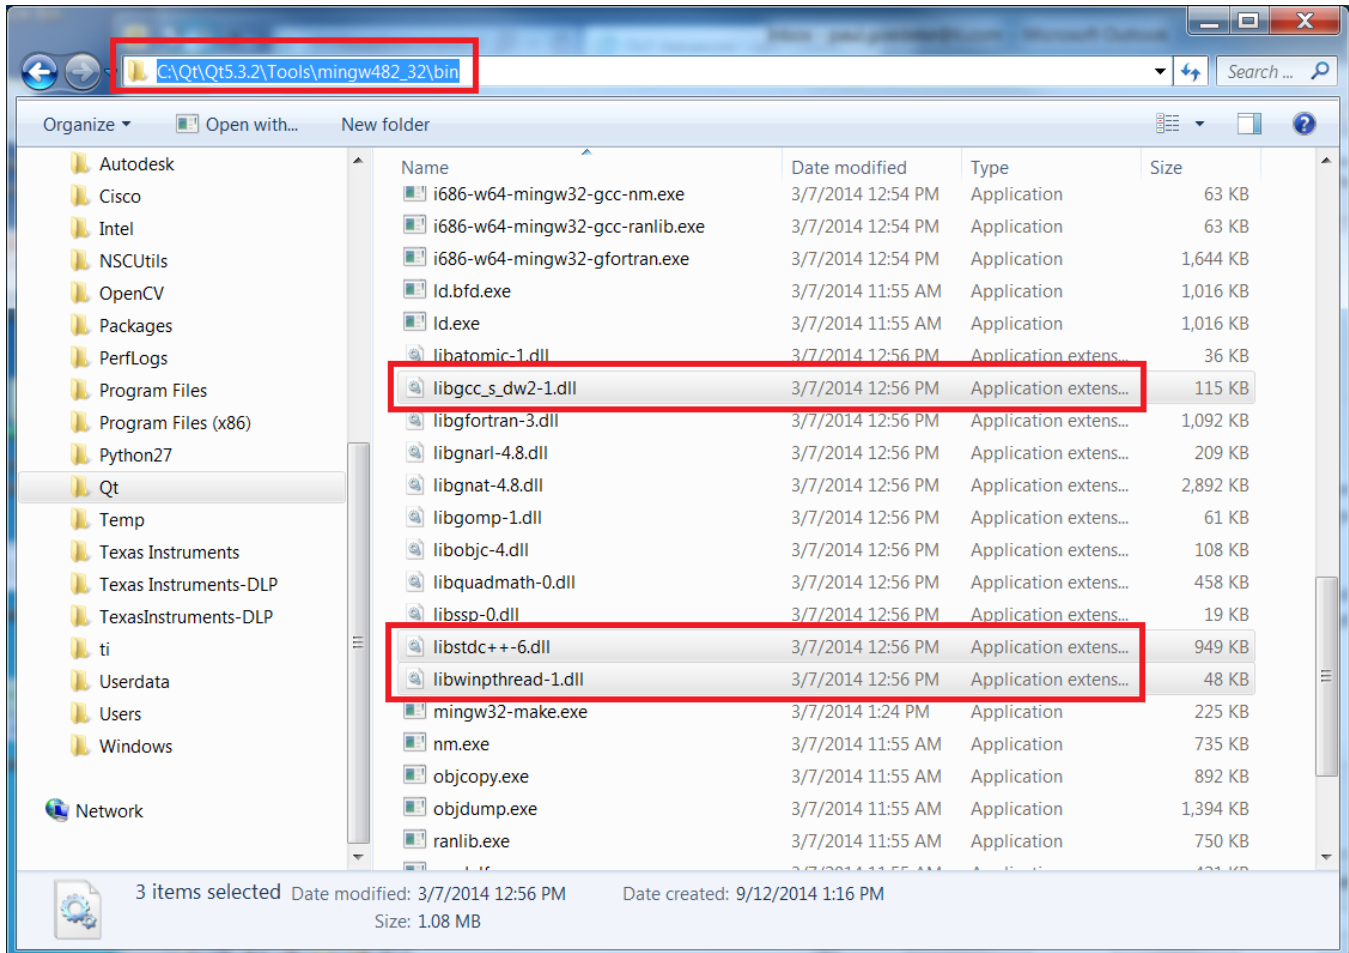
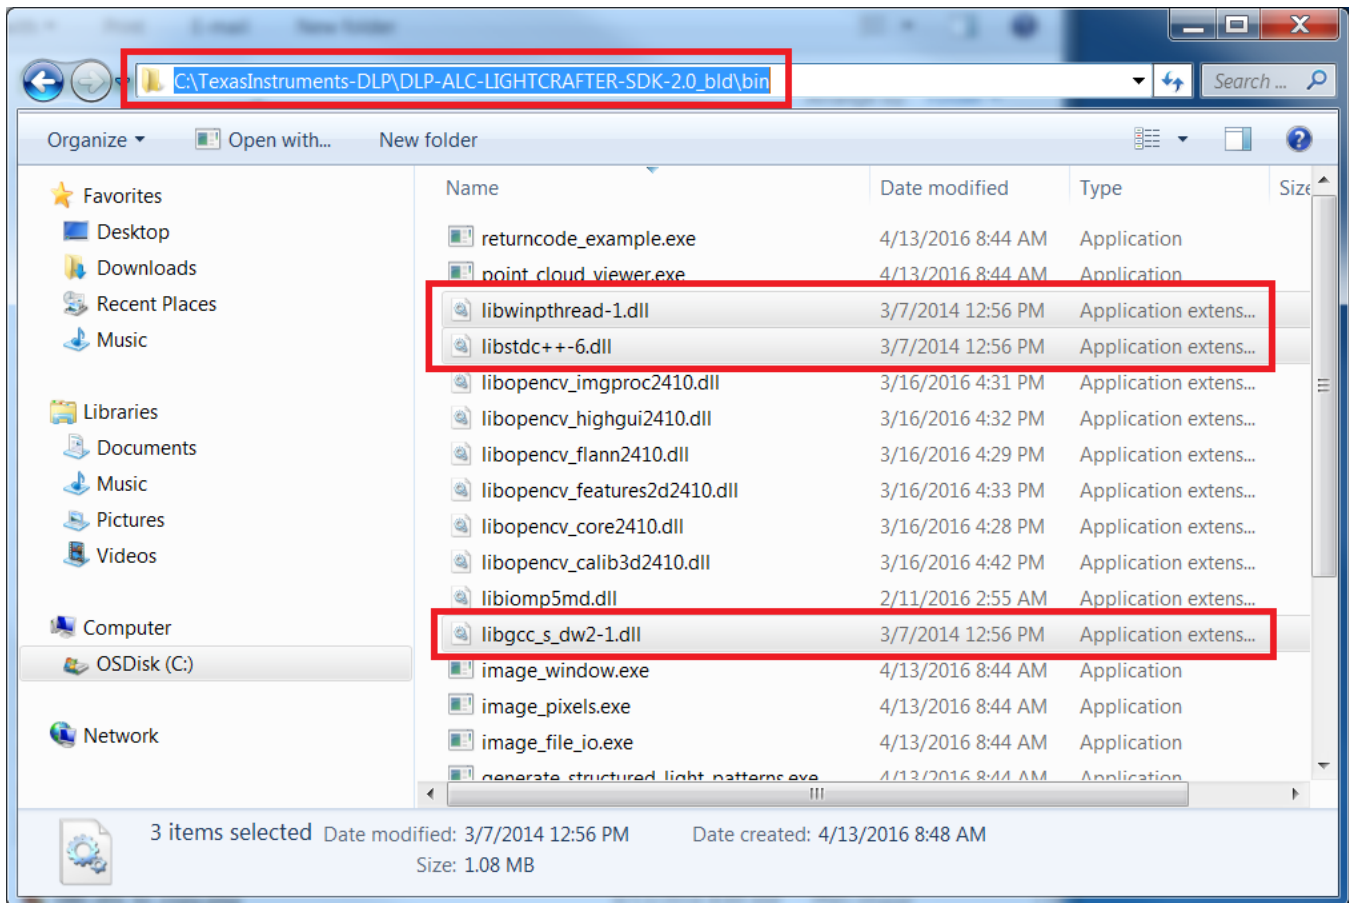

Figure 53. Example Code DLLs to Copy
Figure 54. Example Code DLLs Copied Into Correct Folder
10. The installed and built DLP ALC SDK also includes example code for reference. This example code can be found in \bin folder of the built code. An example file path might be: C:\TexasInstruments-DLP\DLP-ALC-LIGHTCRAFTER-SDK-2.0_bld\bin. Once built, the examples are in the form of .exe files and include simple operations such as point cloud viewing, taking a picture, and opening the camera. To run these examples, three DLLs need to be copied into the \bin folder. These DLLs are *libgcc_s_dw2-1.dll*, *libstdc++-6.dll*, and *libwinpthread-1.dll*, and they can be found in C:\Qt\Qt5.3.2\Tools\mingw482_32\bin. Copy them from the folder shown in Figure 53 into the build folder as shown in Figure 54.
7. Before the TI Design can be run, the DLLs from Figure 53 must be copied into the \bin folder inside the built code folder for the TI Design. An example path is C:\TexasInstruments-DLP\DLP-ALC-LIGHTCRAFTER-SDK-2.0\TIDA-00254_LCr4500_MachineVision_bld\bin.